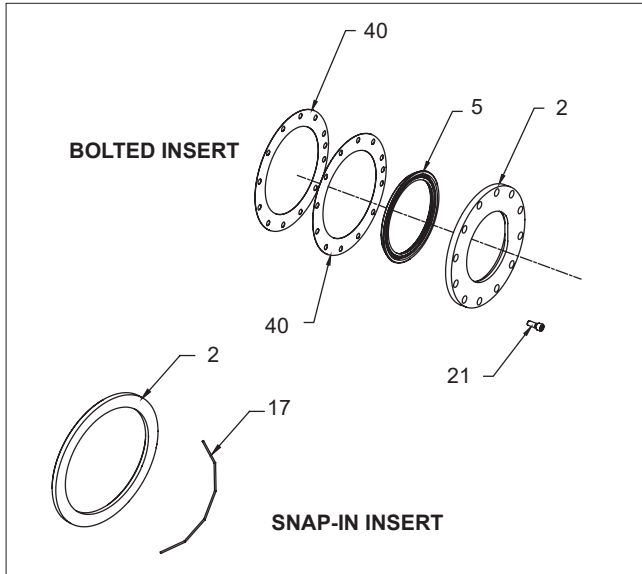

Figure 8.
Numbers in ( ) refer to items shown in Figures 8, 9, & 12.
3. Remove the seat (5), two body seals (40) and discard it.
8. Two body seals (40) are required between the seat tail and the body as shown in (**Figure 8 & 14**). The valve uses a graphite type gasket. This is installed in accordance with the following steps.
- c. Apply the two body seals (40) to the body, and if a lug style, take care to align the holes in the gasket with the insert screw holes.
9. Verify the disc is in the level position and install the seat (5) and insert (2) (See **Figures 8 & 9**).